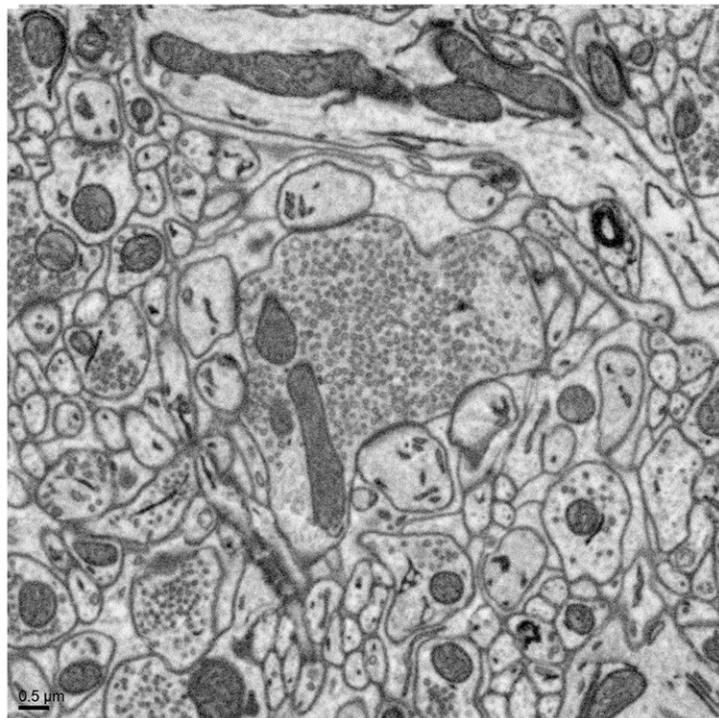

Figure 3. A high magnification image from the region indicated in Figure 2. Note synaptic vesicles, microtubules, and mitochondria cristae.
Figure 3. (A) A 25x25x25um volumetric data set containing 500 serial images of mouse brain obtained using 3View® installed on a FEI Quanta™200 FEG SEM. (B) A low magnification overview from the volumetric data set in Figure 1. The original data set was 4096x4096 pixels, 500 serial images, and had a pixel size of 5.6nm.